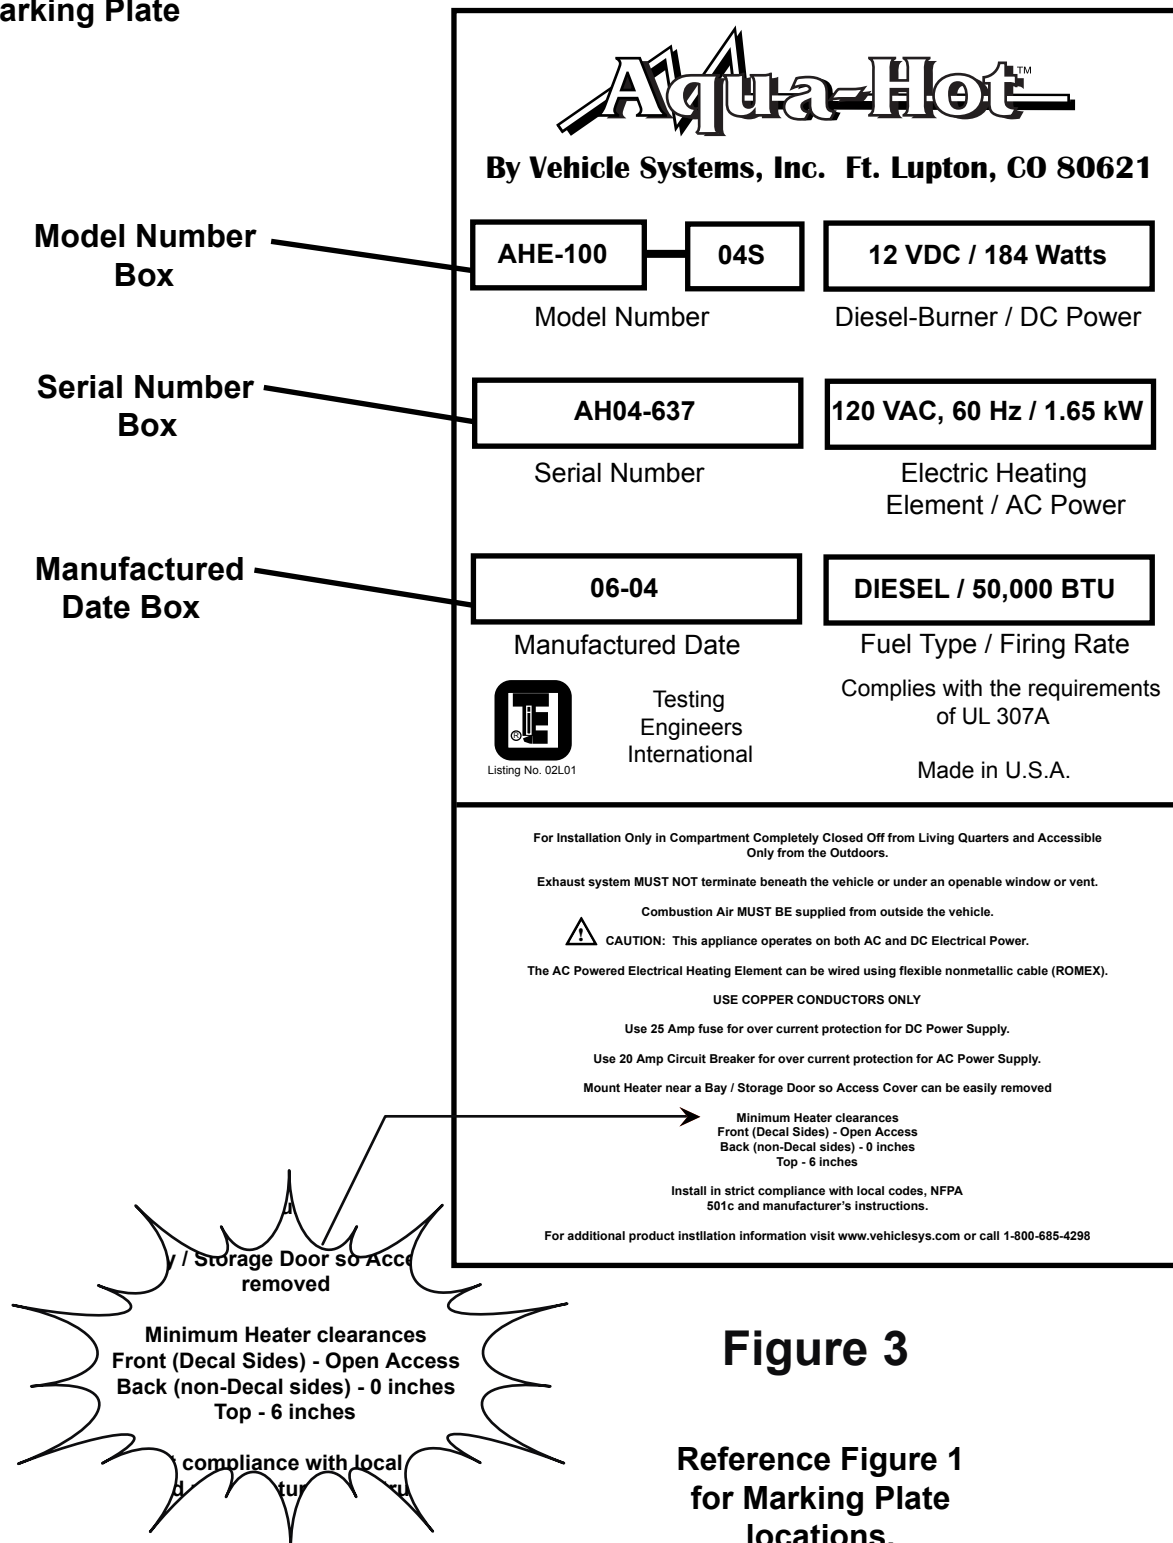

Figure 3
- Minimum Heater clearances; reference the Aqua-Hot's Marking Plate (Figure 3).